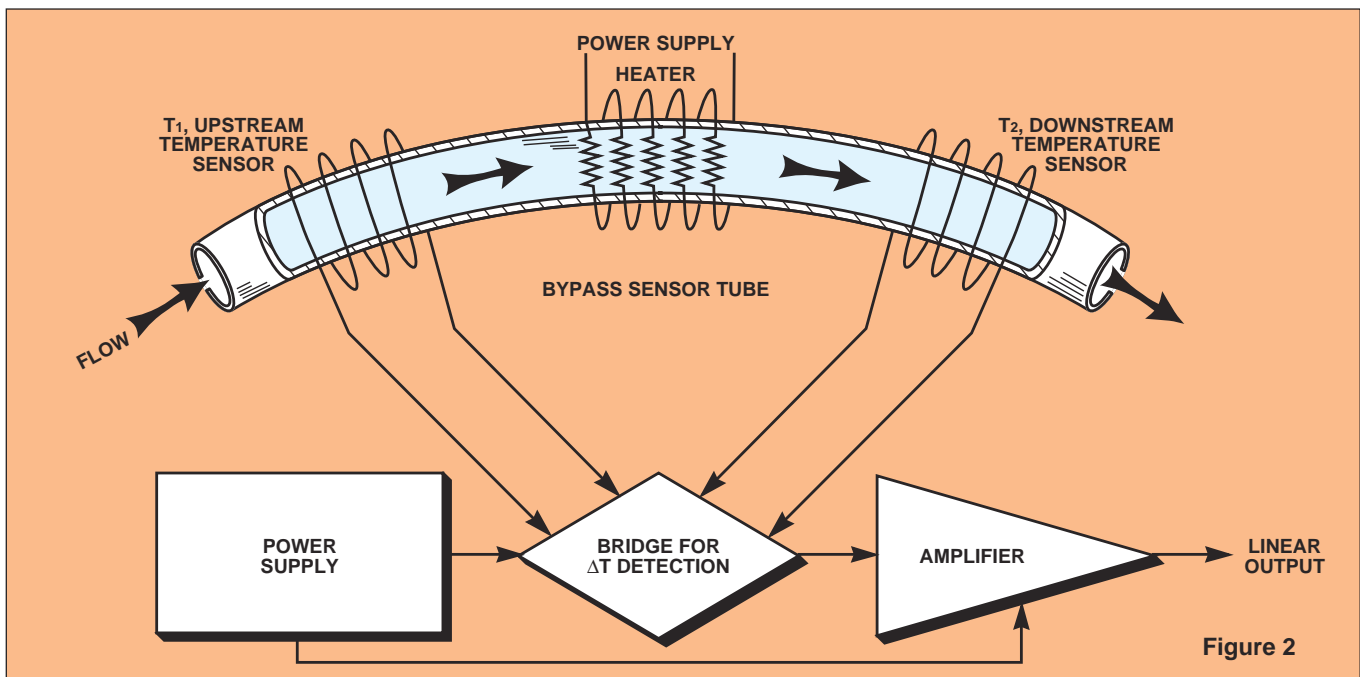

Figure 2
In these units, all or part of the gas flow passes through a precision-manufactured sensing tube (Fig. 2). Heat (Q) is applied to the gas flowing through the sensor tube via two externally wound resistance temperature detectors (T_1 and T_2). The detectors have a dual function: to both heat and sense the sensor-tube temperature. When the molecules of the gas pass through the upstream sensor winding (T_1) they carry away a certain amount of heat.